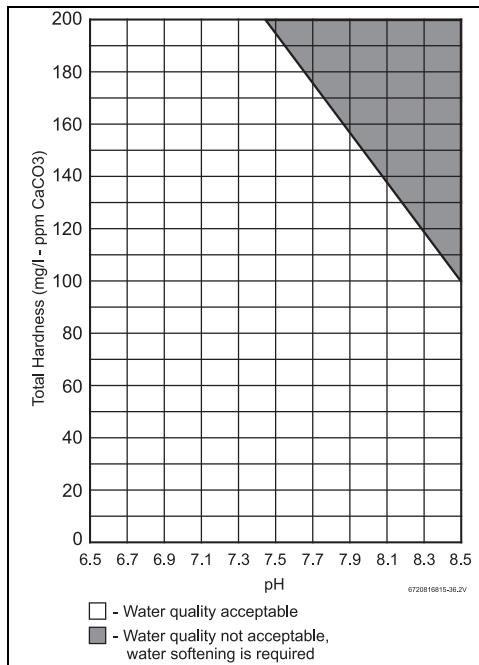

Fig. 26 Water total hardness and pH values
Water quality can have an impact on appliance longevity. Water supplied to the Infiniti Tankless® K-Series must be in accordance with table 17 and fig. 26.
For water analysis data call your local water department, or if on a well, have well water analyzed periodically. Heavy scale will form if the combination of water total hardness and pH exceeds the values specified in fig. 26 (grey area), Bradford White recommends consulting a local water treatment professional for water softening/conditioning options.
1. Total Hardness and pH maximum values must be evaluated in combination. Indicated maximum values will be reduced according to fig. 26.